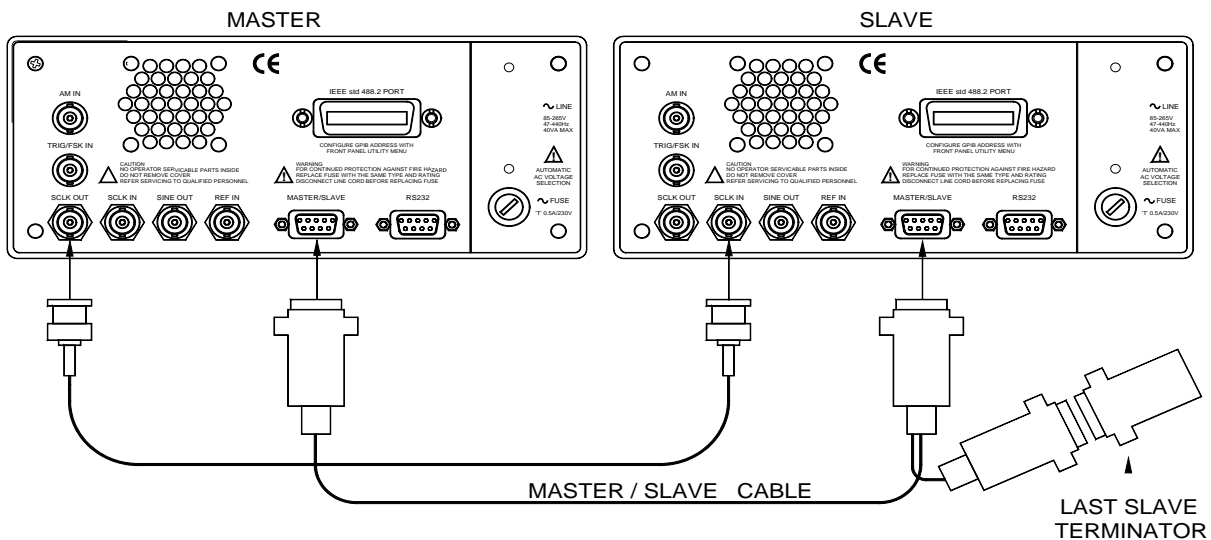

Figure 3-26. Wiring Diagram Master to Slave
Connecting multiple instruments in master/slave configuration is extremely easy. All you need is two types of cables, the first being a standard BNC to BNC coax cable to feed the sample clock output and a 9-pin to 9-pin cable to feed the master-to-slave, or slave-to-slave controls. You can get the standard BNC cable from any store however, the master/slave cable must be bought from your Fluke distributor. Figure 3-26 shows the connection between master and slave instruments. Additional slave units can be daisy-chained in a similar way. What you have to remember is that SCLK OUT feeds an adjacent SCLK IN. Also, always have the last slave unit in the chain terminated with the special 9-pin terminator.
1. Connect your instruments as shown in Figure 3-26. Make sure you designate the first instrument in the chain as master. Also make sure the last slave is terminated with the 9-pin terminator.